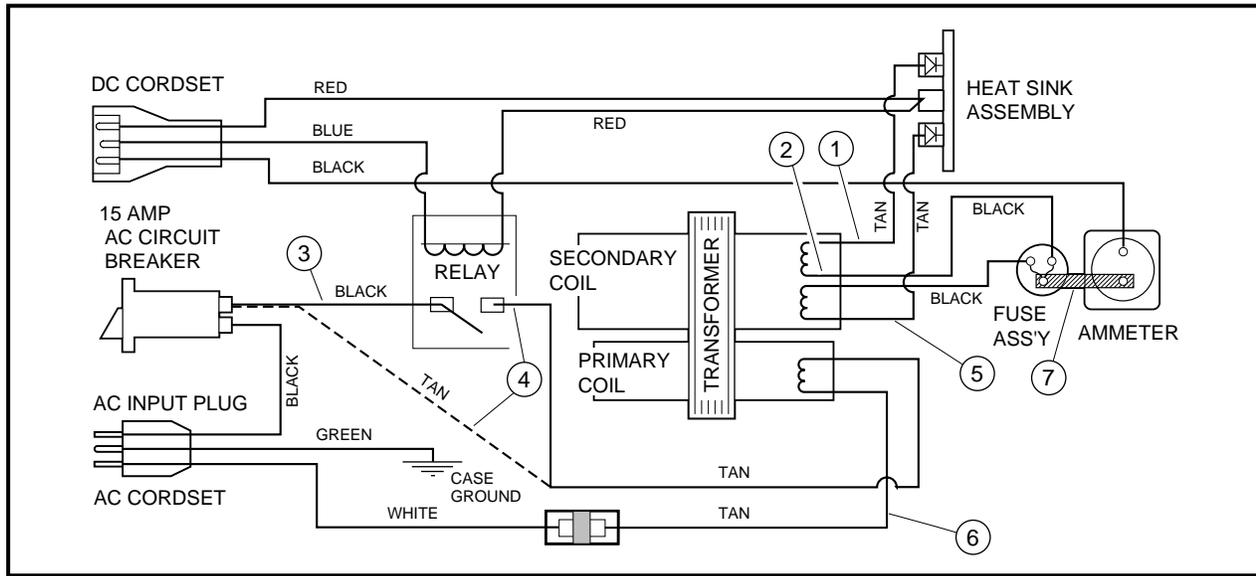
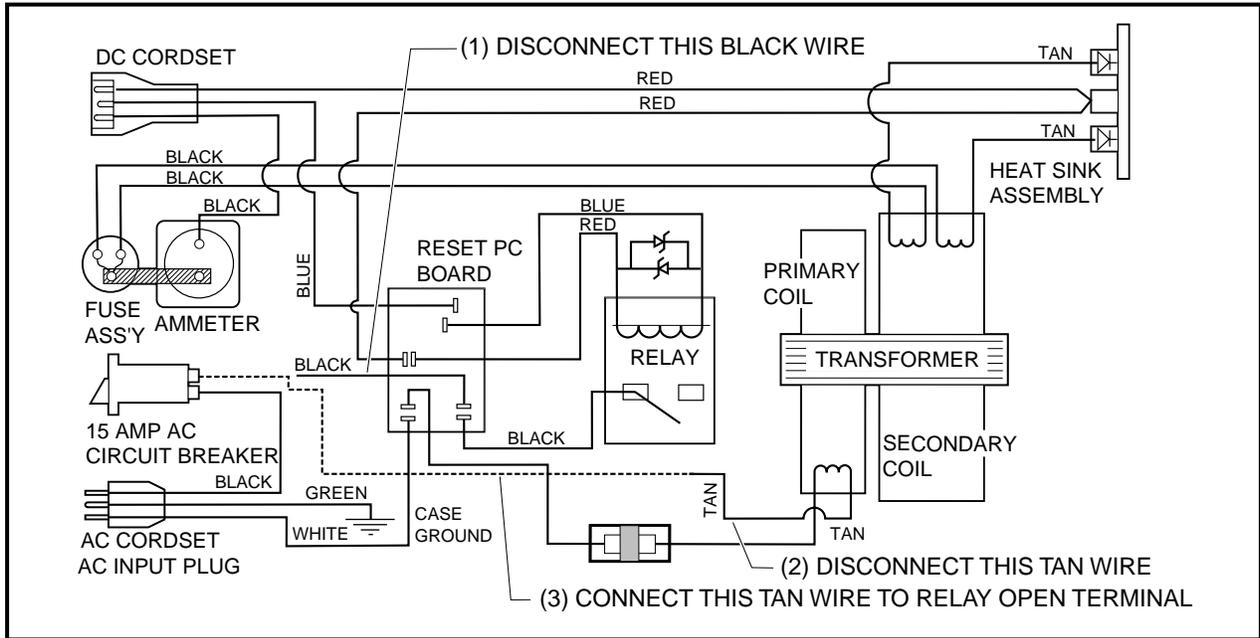

Figure 13-11 PowerDrive Charger Wiring Diagram
Figure 13-12 Onboard PowerDrive Charger Wiring Diagram
5. Inside the charger, locate the black wire (3) that goes from the circuit breaker to the relay and disconnect it from the circuit breaker terminal. Make sure this wire does not touch the charger housing or any other charger components (**Figure 13-11, Page 13-14 or Figure 13-12, Page 13-15**).
6. Disconnect the transformer wire (4) from the relay and then connect this wire to the open terminal on the circuit breaker (**Figure 13-11, Page 13-14 or Figure 13-12, Page 13-15**).
10. Disconnect transformer wire from circuit breaker and connect it to the relay. Reconnect the short black wire from the relay to the circuit breaker (**Figure 13-11, Page 13-14 or Figure 13-12, Page 13-15**).